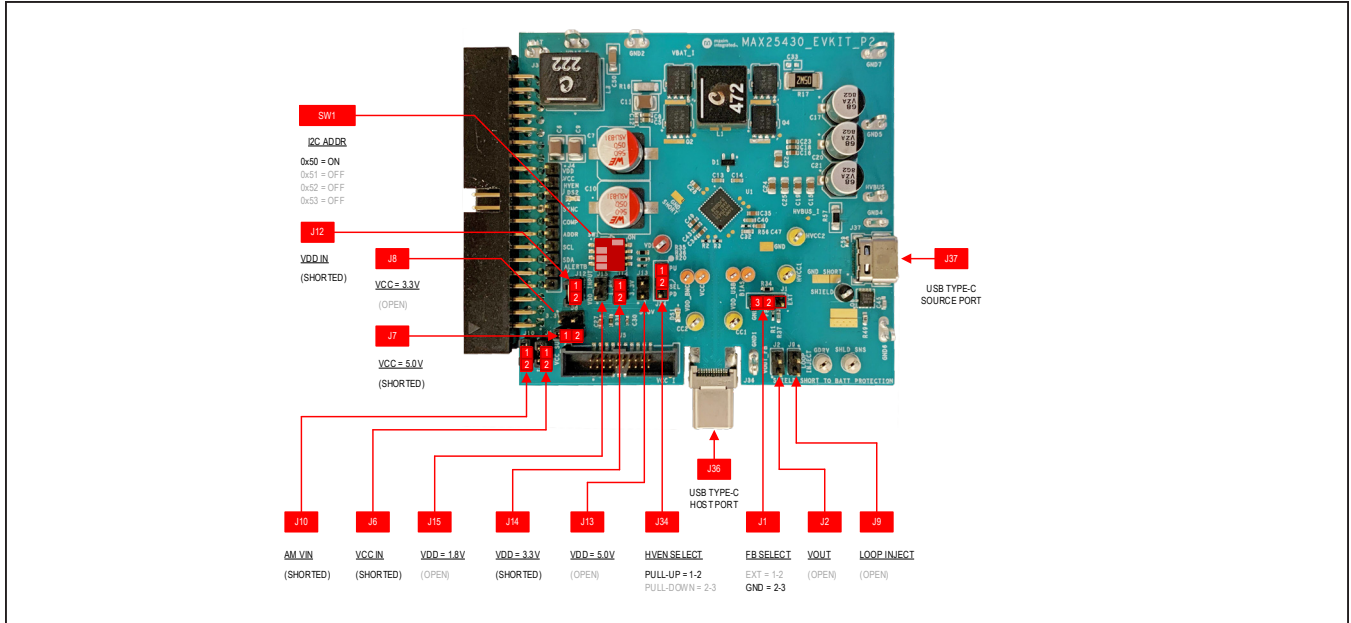

Figure 1 MAX25430 A EV Kit Board Jumper Positions
- 4) Push the two boards together at J3 (40-pin header) as shown in the Initial EV kit setup below, Figure 1.